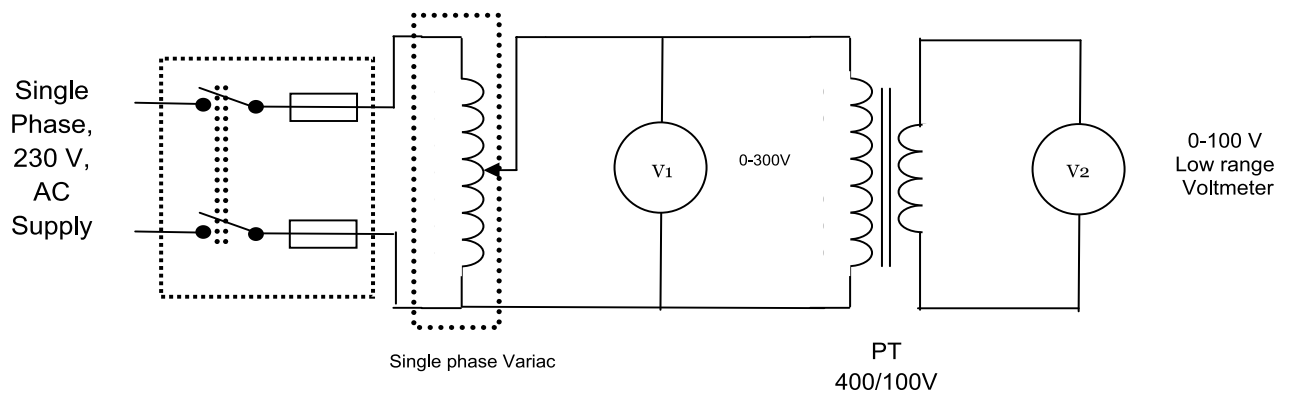

Figure 2: Extend range of voltmeter using PT
1. Make the connections as per Figure 2.